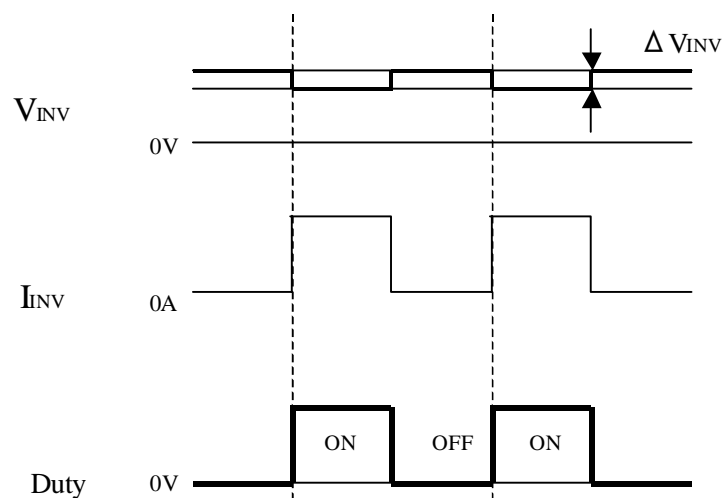

Fig.4 Brightness control voltage.
- b) Brightness control voltage is switched for “ON” and “OFF”, as shown in Fig.4. Voltage difference generated by this switching,  $V_{INV}$ , may affect a sound output, etc. when the power supply is shared between the inverter and its surrounding circuit. So, separate the power supply of the inverter circuit with the one of its surrounding circuit.